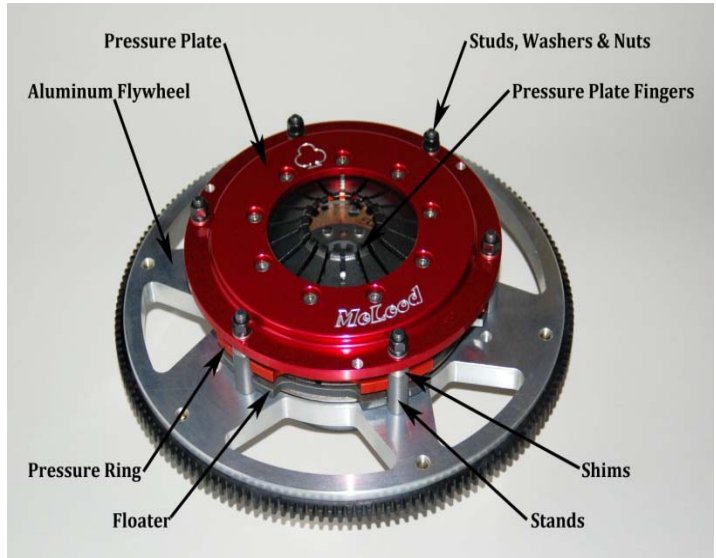

Figure 7
- 10) **Pressure Plate tightening sequence is critical at this point.** Tighten pressure plate nuts to 25 ft/lbs in a star pattern (1 o'clock, 7, 3, 9, 5, 11). Place a straight edge onto the pressure plate across the fingers. When the nuts are properly tightened, the fingers will just contact the straight edge. Final torque is determined when the diaphragm fingers are even with the straight edge. This should be close to 35 ft/lbs...again tightening in the star pattern. See Figure 7.